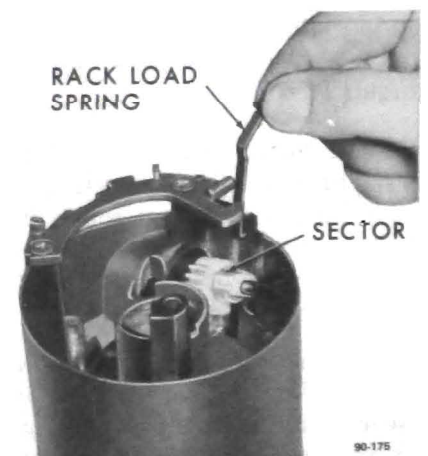

Figure 90-112 Removing or Installing Load Spring
18. Remove the load spring. See Figure 90-112.
3. Insert the rack spring in the housing from the bottom side. The long section should be toward the steering wheel and hook on the edge of the housing. See Figure 90-112.